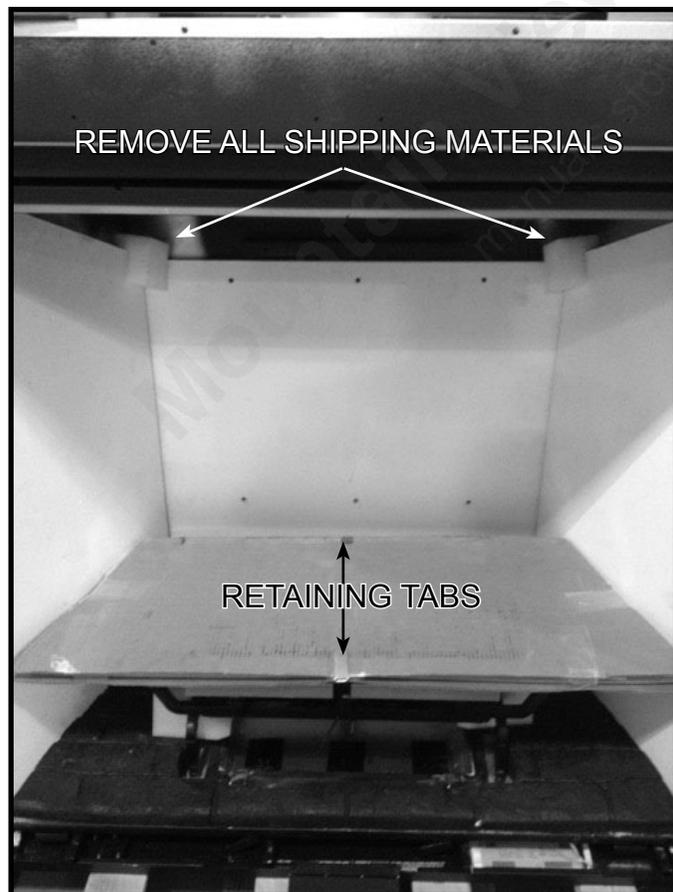

Figure 11.9 Remove Shipping Materials
1. Remove glass from the front of the appliance. Remove all shipping materials from inside the firebox. See Figure 11.9.
2. Carefully remove top refractory by straightening the retaining tabs. Set refractory panel aside for later use. See Figure 11.9.
11. Carefully reinstall base refractory, removed in step 5, back into position. Refer to Figure 11.9 for correct placement.